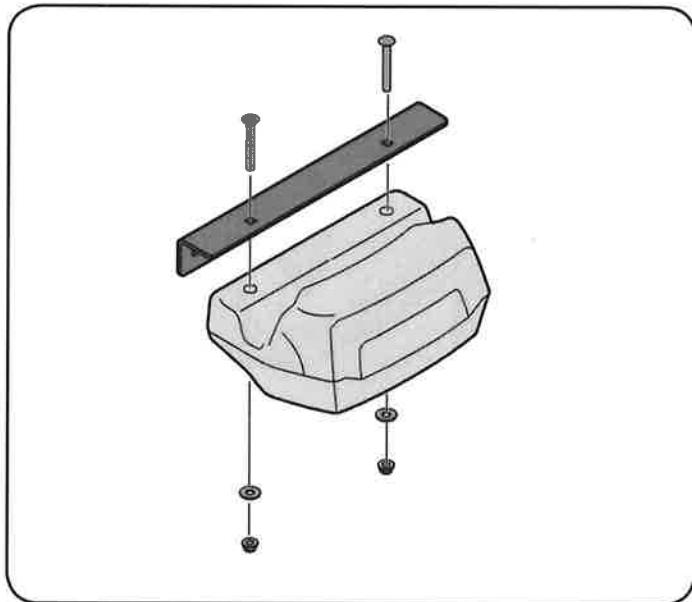
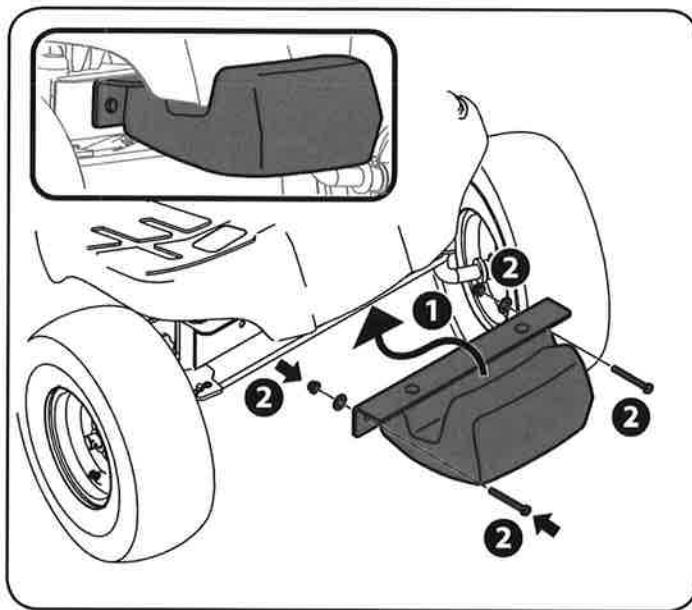

Figure 8
Figure 10
Assemble, then attach the counter-weight to the front steering assembly using the hardware in pack 683-05147, as shown in Figure 8 and Figure 10.
1. Install the counter-weight mounting bracket to the counter-weight using two 710-0572 carriage bolts, two 736-0159 flat washers and two 712-04063 flange lock nuts from hardware pack 683-05147. See Figure 8.